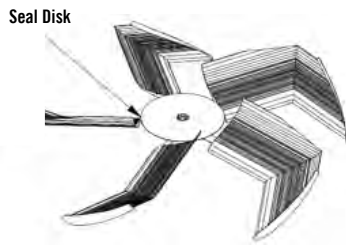

Figure 27. Fan Seal Disk (S3E-1424-X models only)
1. Remove the fan seal disk (**Figure 27**). This step is only required for S3E-1424-X models.